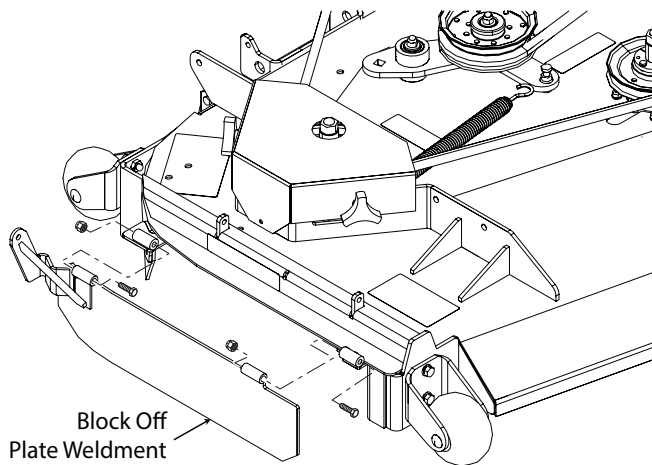

Figure 3-5. Block Off Plate Weldment Installation
17. Install the block off plate weldment to the front and rear hinge brackets using two (2) 5/16-18 x 3-1/2" bolts and two (2) 5/16-18 elastic stop nuts. See Figure 3-5. Do not tighten the bolts completely. Secure the hardware so the block off plate weldment moves freely.